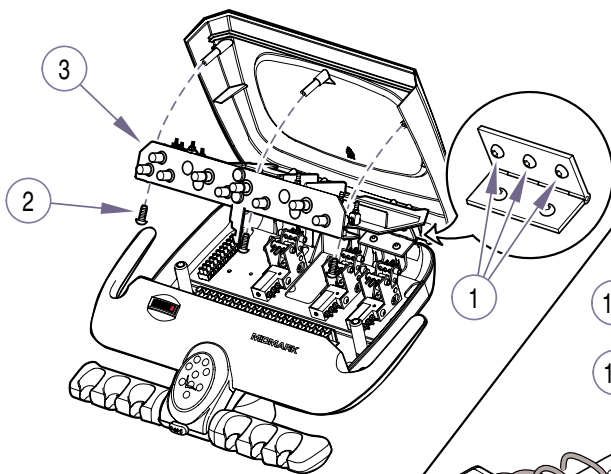

Figure 4
- (1) Loosen six screws (1, Figure 4) [**top three screws on two hinges**]; then remove three screws (2) and lower lid cover (3).